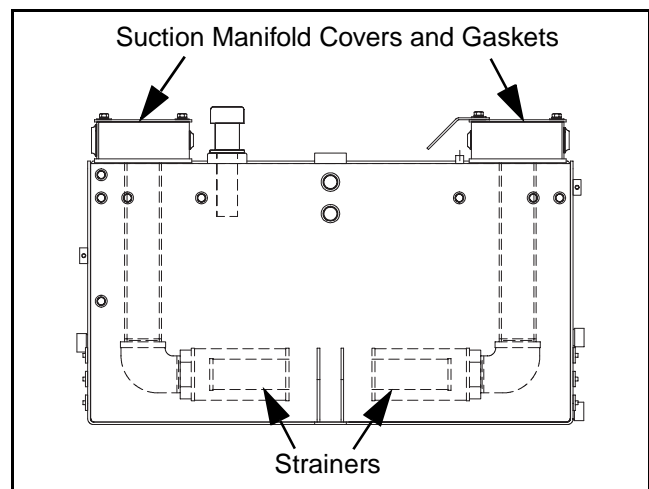

Figure 6 - 4 Suction Strainers
- 2) Remove the cover from the suction manifold to gain access to the strainer. (Figure 6 - 4)